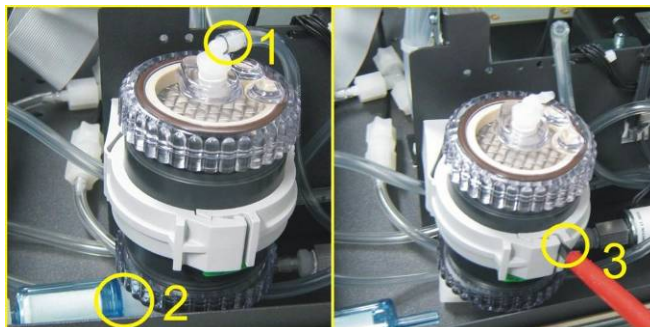

Figure 21 Zero scrubber removal
2. Remove the tubing from the barb fitting on top of the scrubber (1 in Figure 21)
3. Remove the DFU from the fitting below the scrubber by pulling it out (2 in Figure 21)
4. Now the scrubber holder can be opened with a screwdriver (3 in Figure 21)